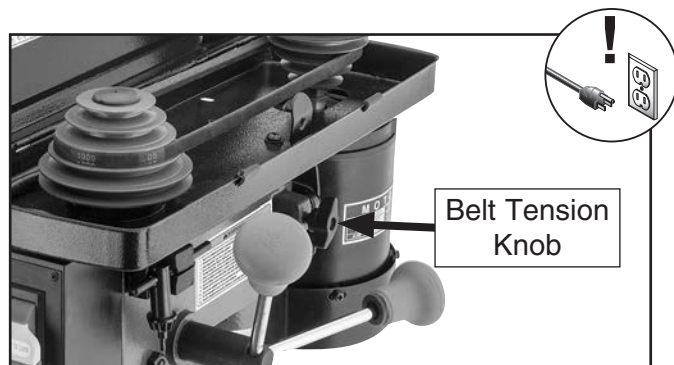

Figure 18. Belt tension knob location.
4. Turn belt tension knob counterclockwise to loosen motor tension spring (see **Figure 18**).